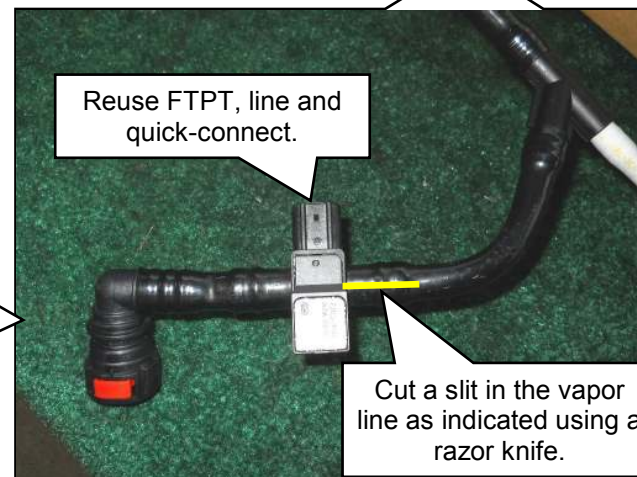

Figure 9.5
4. Slit the vapor line as indicated to remove the FTPT, line and quick-connect fitting. Save for reuse. **Figure 9.5.**